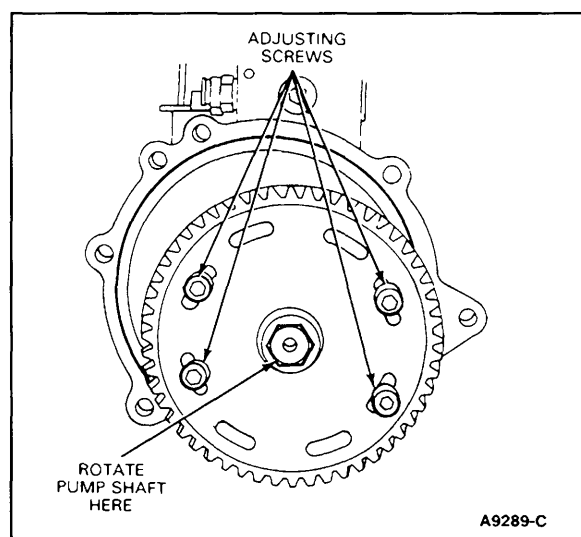

Figure 18 Injection Pump Gear Hub Adjusting Screws
4. To adjust timing, loosen the four adjusting screws on the injection pump gear hub (Figure 18). Rotate the pump shaft until the pump timing lock pin can be pushed into position and fully seated.